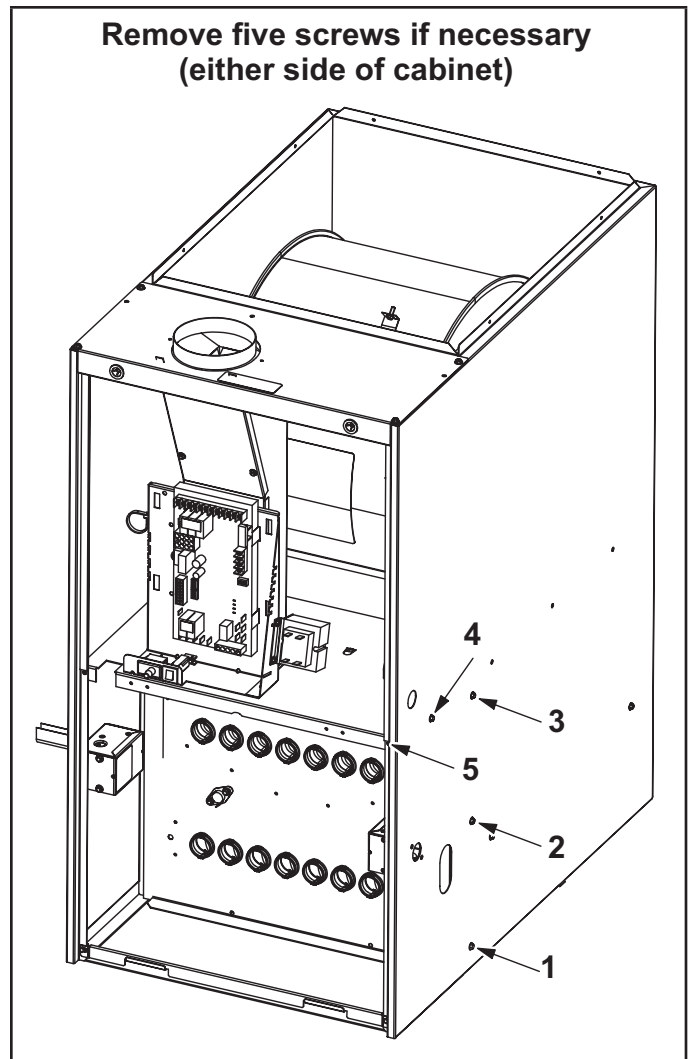

FIGURE 26
- 8 - Remove heat exchanger. It may be necessary to spread cabinet side to allow more room. If so, remove five screws from the left side or right side of cabinet. See FIGURE 26.